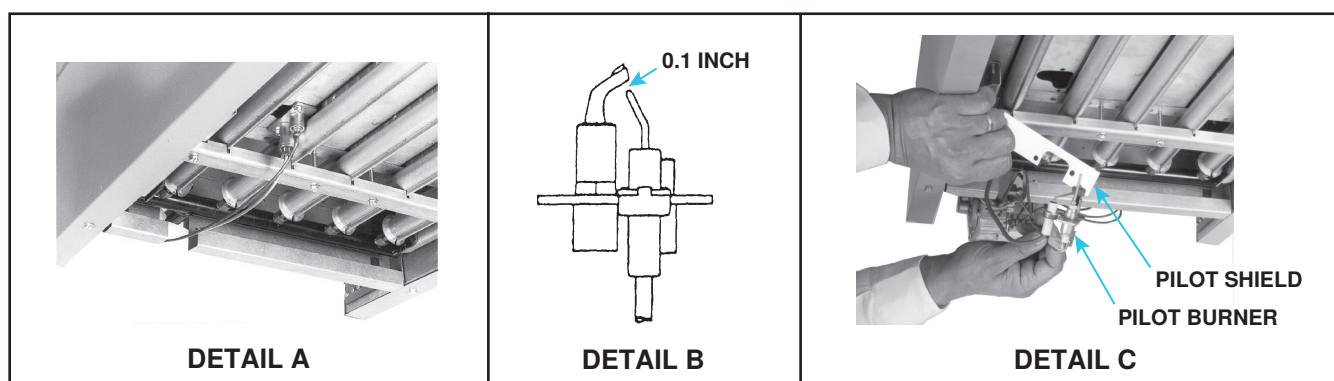

Figure 42. Pilot Assembly
- Remove screws that secure existing match-lit pilot assembly (see Figure 42, DETAIL A) and remove assembly.
- Before installing replacement spark pilot assembly, ensure that spark gap between pilot hood and ignitor is 0.1 inch (see Figure 42, DETAIL B). Adjust spark gap as necessary by adjusting rod while holding ceramic base with pliers.
- Install pilot shield and spark pilot assembly (see Figure 42, DETAIL C) with pilot burner extending toward burner tube.